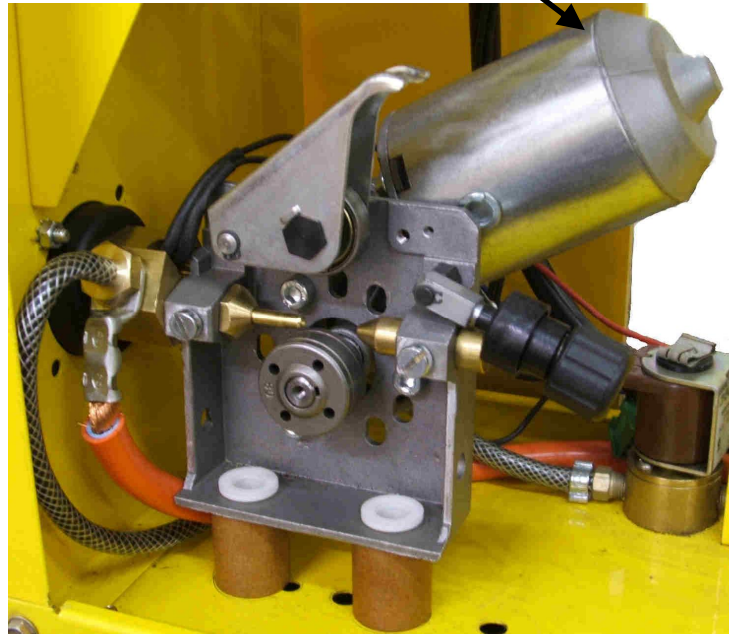

Fig 4
11. Fit the wirefeed assembly (sitting on its insulation blocks) up to the panel as in Fig 4, and check for clearance. It may be necessary to rotate the wirefeed motor assembly to make sufficient clearance. Usually there are alternative holes in the feed plate to allow this. If there is insufficient clearance to allow the wirefeeder assembly to be mounted, it may be necessary to fit a stem (in place of the attachment bolt) to allow the wirefeeder to be set back from the front panel.